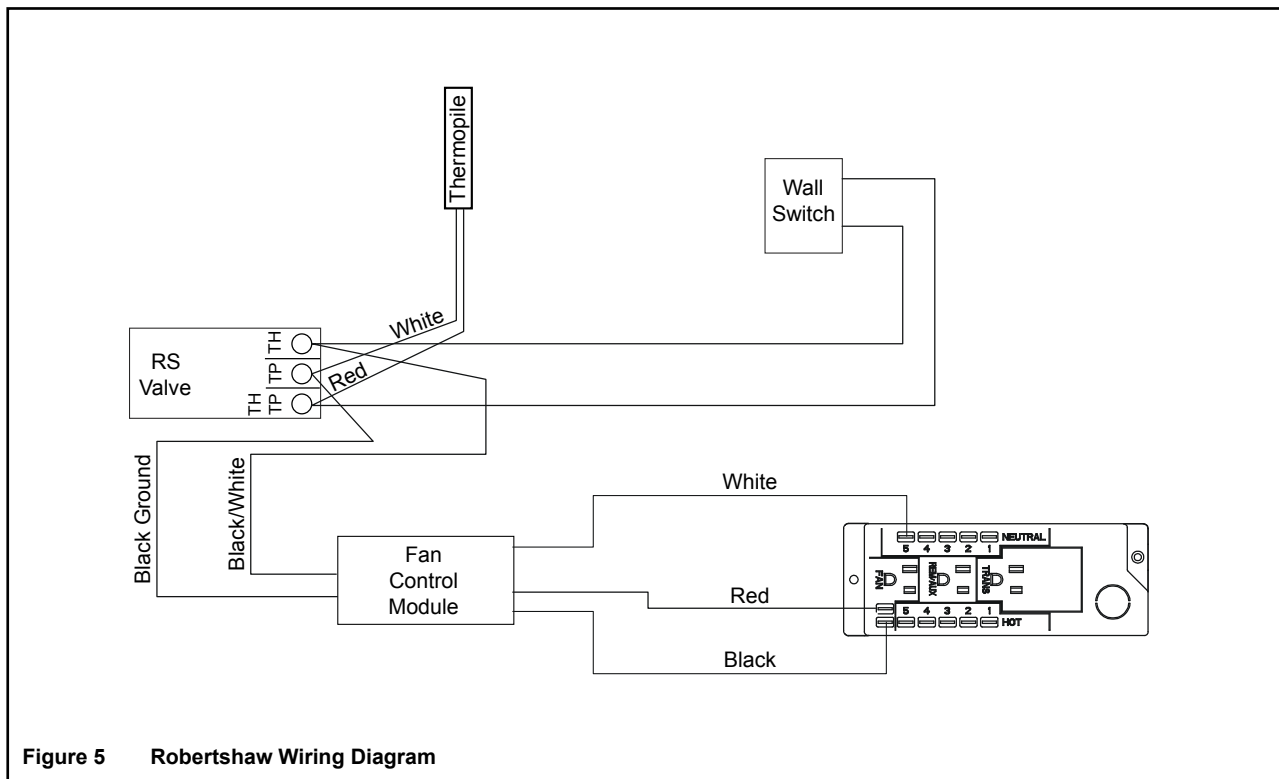

Figure 5 Robertshaw Wiring Diagram
Note: Fan control timer only for use on units with junction box pictured in Figure 5.
- Connect the black, white and red wires with 1/4 in. female connectors from the fan control module to the appliance junction box as shown in Figure 5.
Note: Thermopile must be wired as shown in Figure 5.